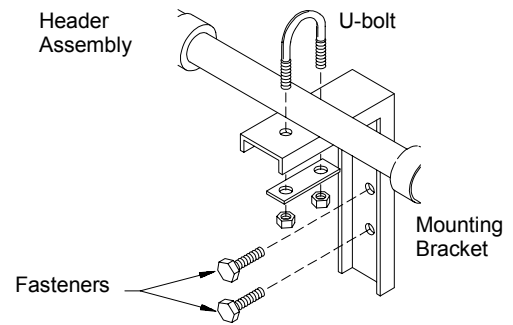

FIGURE 8
4. Mark the mounting holes and install fasteners suitable for the type of wall construction. (Figure 8)
6. Mark the mounting holes and install fasteners suitable for the type of wall construction. (Figure 8)
7. Mount the manifolds by placing the header on the brackets. Fit the U-bolt over the header pipe and tighten the mounting nuts. (Figure 8)
10. Mark the mounting hole and install fasteners suitable for the type of wall construction. (Figure 8)